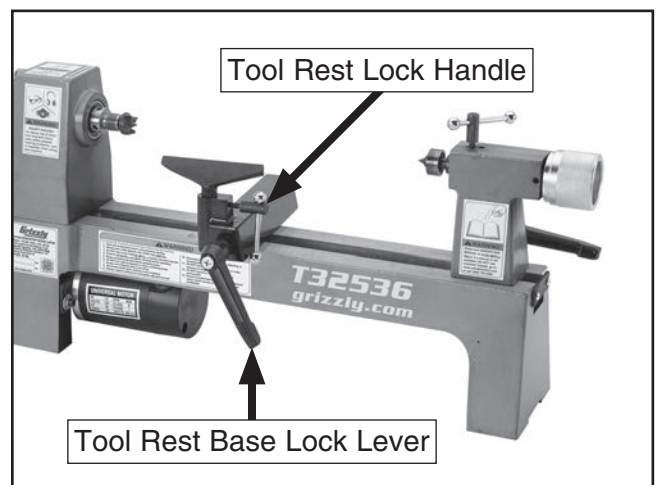

Figure 8. Hardware installed in tool rest base.
2. Install tool rest base lock lever and M6-1 x 28 tool rest lock handle (see **Figure 8**).